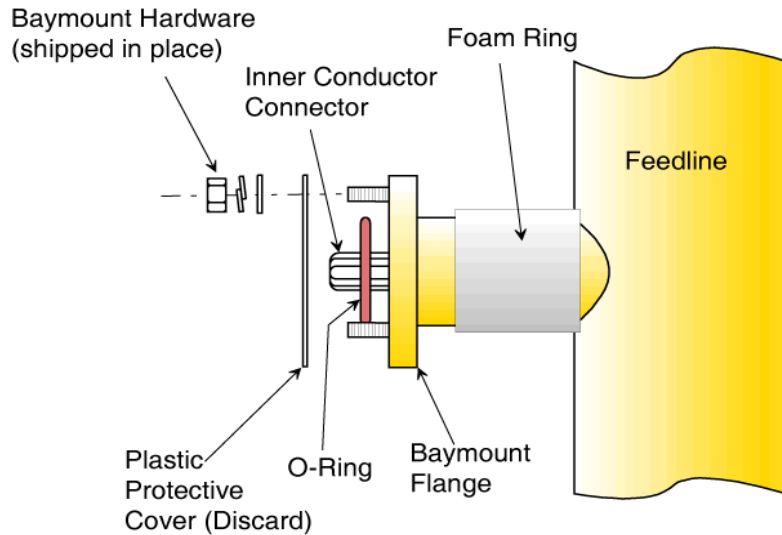

Figure 1. Baymount Detail
| Figure 1 | Baymount Detail | 4 |
- d. Remove the plastic bag and protective cover (see Figure 1) from the baymount flange on the feedline.
- e. The baymount is lined with black foam (see figure 1) to ensure the radome will fit snugly. Check to be sure the foam is in place; otherwise, it will be very difficult to seal the radome later. Reinstall the foam if it has come loose.